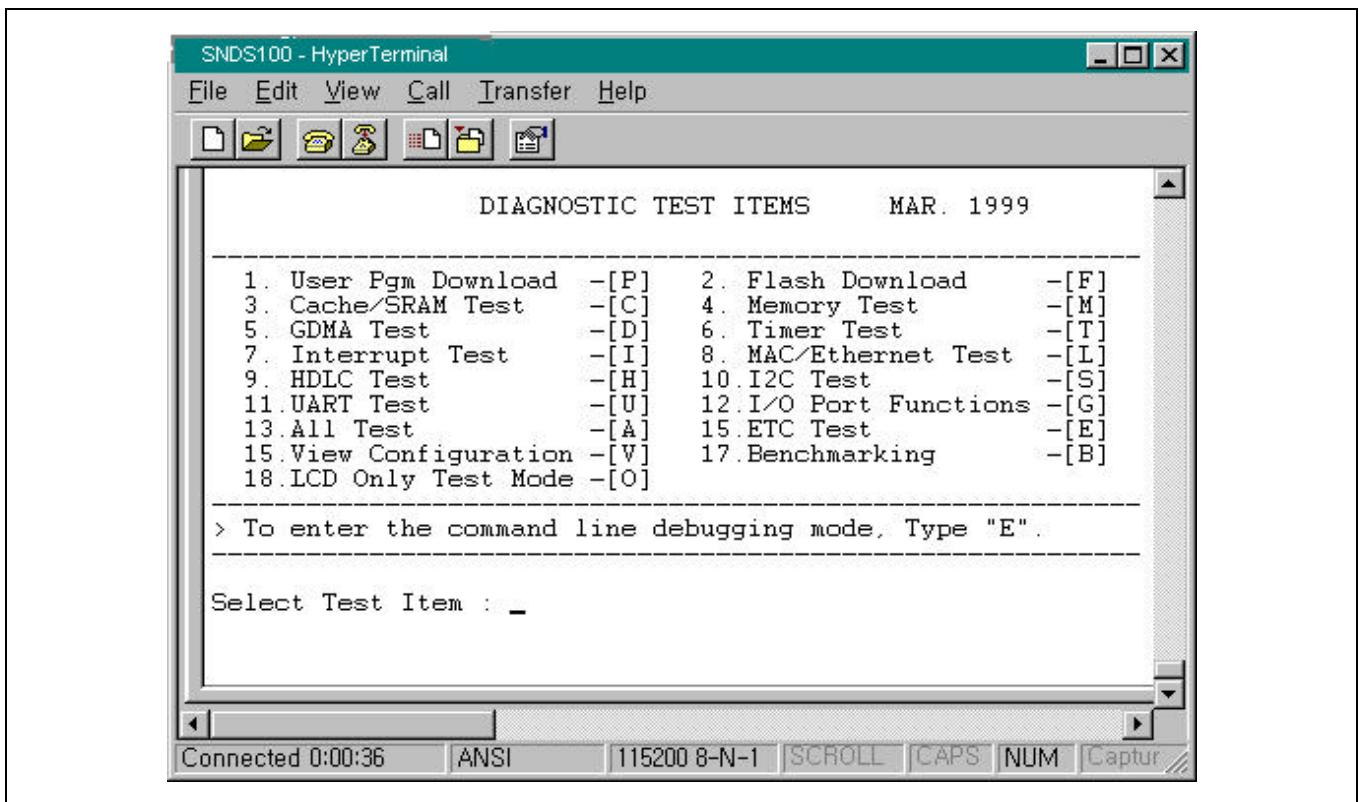

Figure 2-6. SNDS100 Diagnostic Window After Reset
- Now, The diagnostic menu is showed on the Hyper-Terminal (Refer to Figure 2-6).